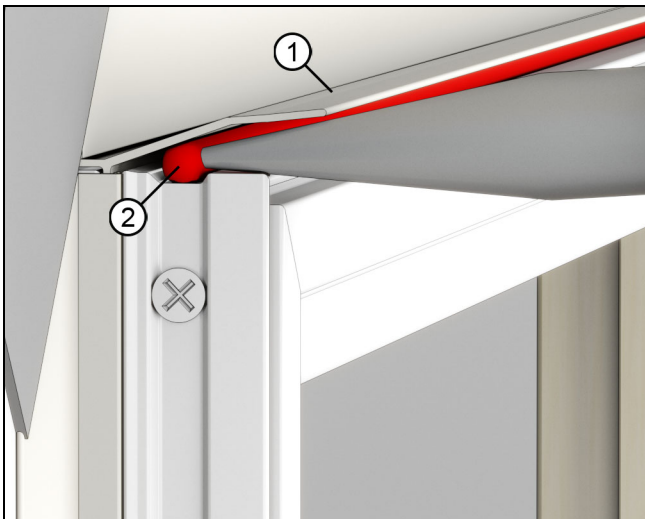

Figure 11
4. Apply a bead of sealant beneath the vinyl drip cap along the top of the head jamb as shown in Figure 11